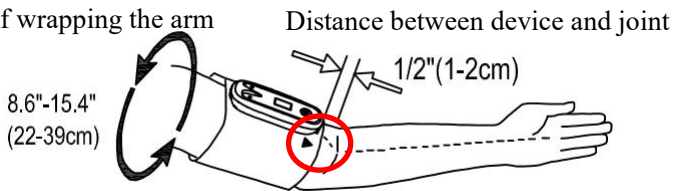

Figure 4.2 Cuff placement
1. When putting on the cuff, spread the cuff and wrap it around the upper arm evenly to appropriate tightness. The correct cuff position refers to figure 4.2. Note: locate the cuff in such a way that direction mark "▼" directs to the lower arm.